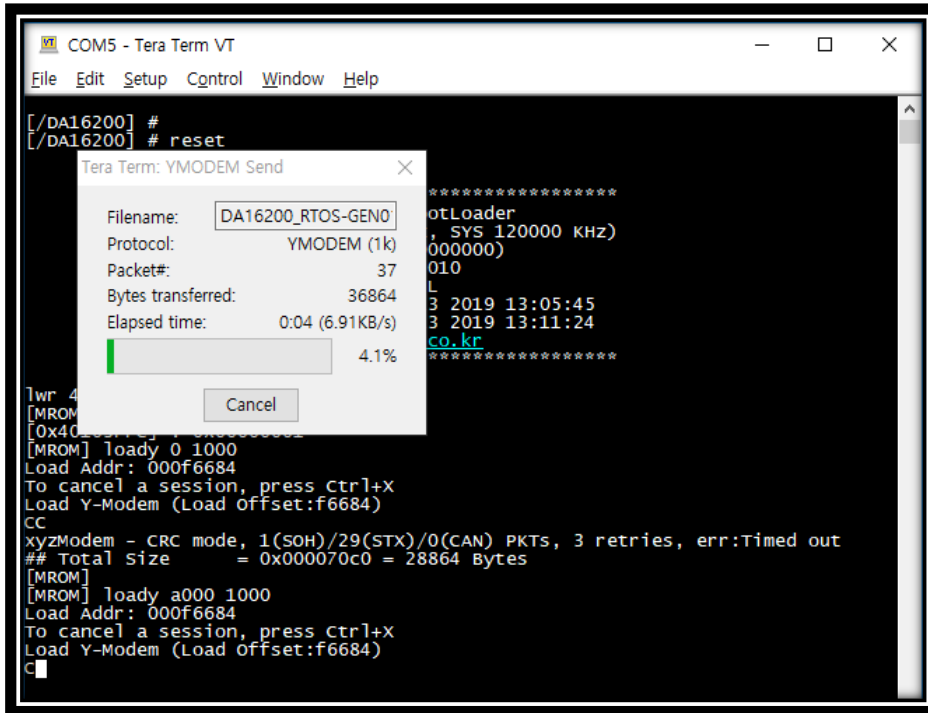

Figure 7. Programming FRTOS image
4. Program RTOS image as shown in Figure 7.